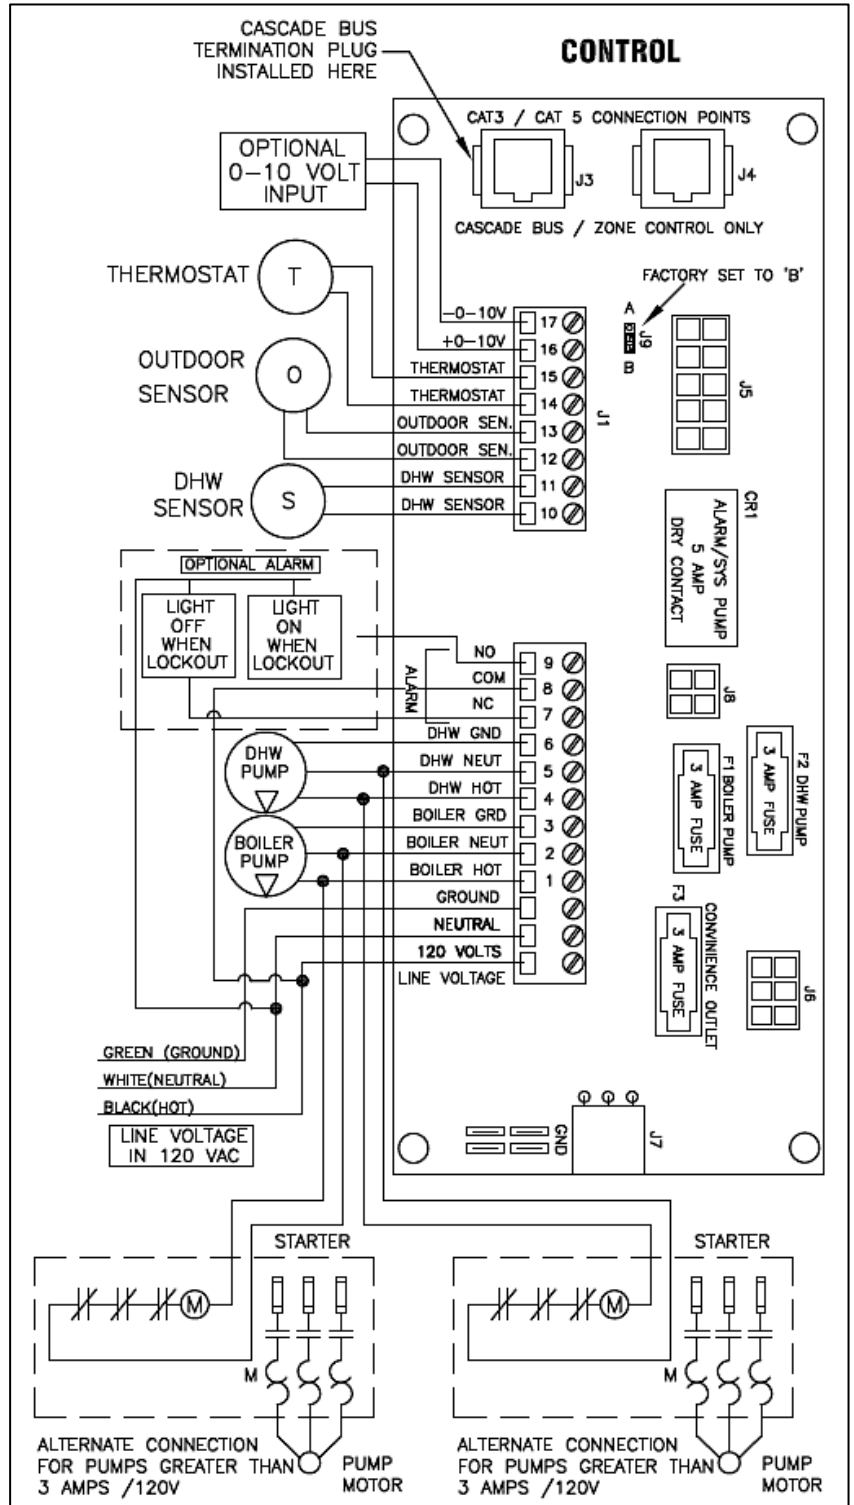

Figure 28 – Boiler Control Wiring
NOTE: A termination plug is included in the CAT 3 / CAT 5 Bus Connection Point, labeled J3 in Figure 28. **DO NOT REMOVE THIS PLUG!** Doing so will affect boiler operation and void warranty.
1. Connect the incoming power wiring to the line voltage terminal strip in the electrical junction box at terminals LINE 120V, Neutral, and Ground (shown in Figure 28).
The Mod Con control includes a dry contact alarm output. This is an SPDT circuit, rated at 5 amps at 120 volts. This contact can be used to activate an alarm light or bell, or notify a building management system if the boiler goes into a lockout condition. The circuit between the ALARM COM and NC terminals is closed during normal operation and the circuit between ALARM COM and NO is open during normal operation. The connections depicted in Figure 28 show two 120 volt lights connected to the alarm terminals. One light will be on when the boiler is in normal mode and the other light will turn on when the boiler is in lockout mode.
2. Connect all low voltage field devices in the low voltage terminal strip located in the electrical junction box (shown in Figure 28).
1. Connect the room thermostat to the terminals marked THERMOSTAT in the electrical junction box (shown in Figure 28). Alternately, any dry contact closure across these terminals will cause the boiler to run. Caution should be taken to ensure neither of the terminals becomes connected to ground.
1. If using an outdoor sensor, connect wires for sensor to the terminals marked OUTDOOR SEN (shown in Figure 28) in the electrical junction box. Caution should be used to ensure neither of these terminals becomes connected to ground.
2. Connect the indirect tank sensor (7250P-325) to the terminals marked DHW SENSOR (shown in Figure 28) in the electrical junction box.
2. Connect a building management system or other auxiliary control signal to the terminals marked 0-10 VOLT + and 0-10 VOLT – in the electrical junction box (shown in Figure 28). Caution should be used to ensure that the 0-10 VOLT + connection does not become connected to ground.